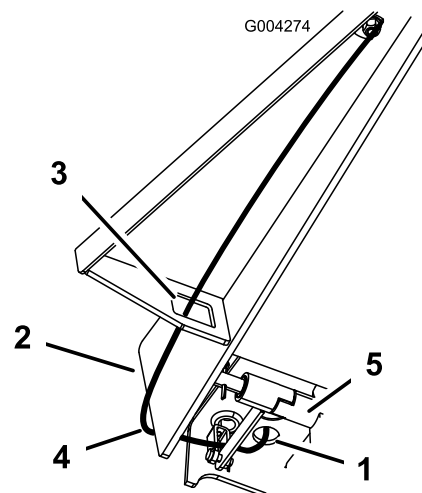

Figure 20
7. Route the cable through the 3/4 inch hole previously drilled in the floor frame (Figure 20).
8. Route cable **through** the speed limiter linkage if the machine is equipped (Figure 20).
9. Feed the cable out from under the frame, toward the front of the vehicle, under the floor board, via the opening in frame (Figure 20).